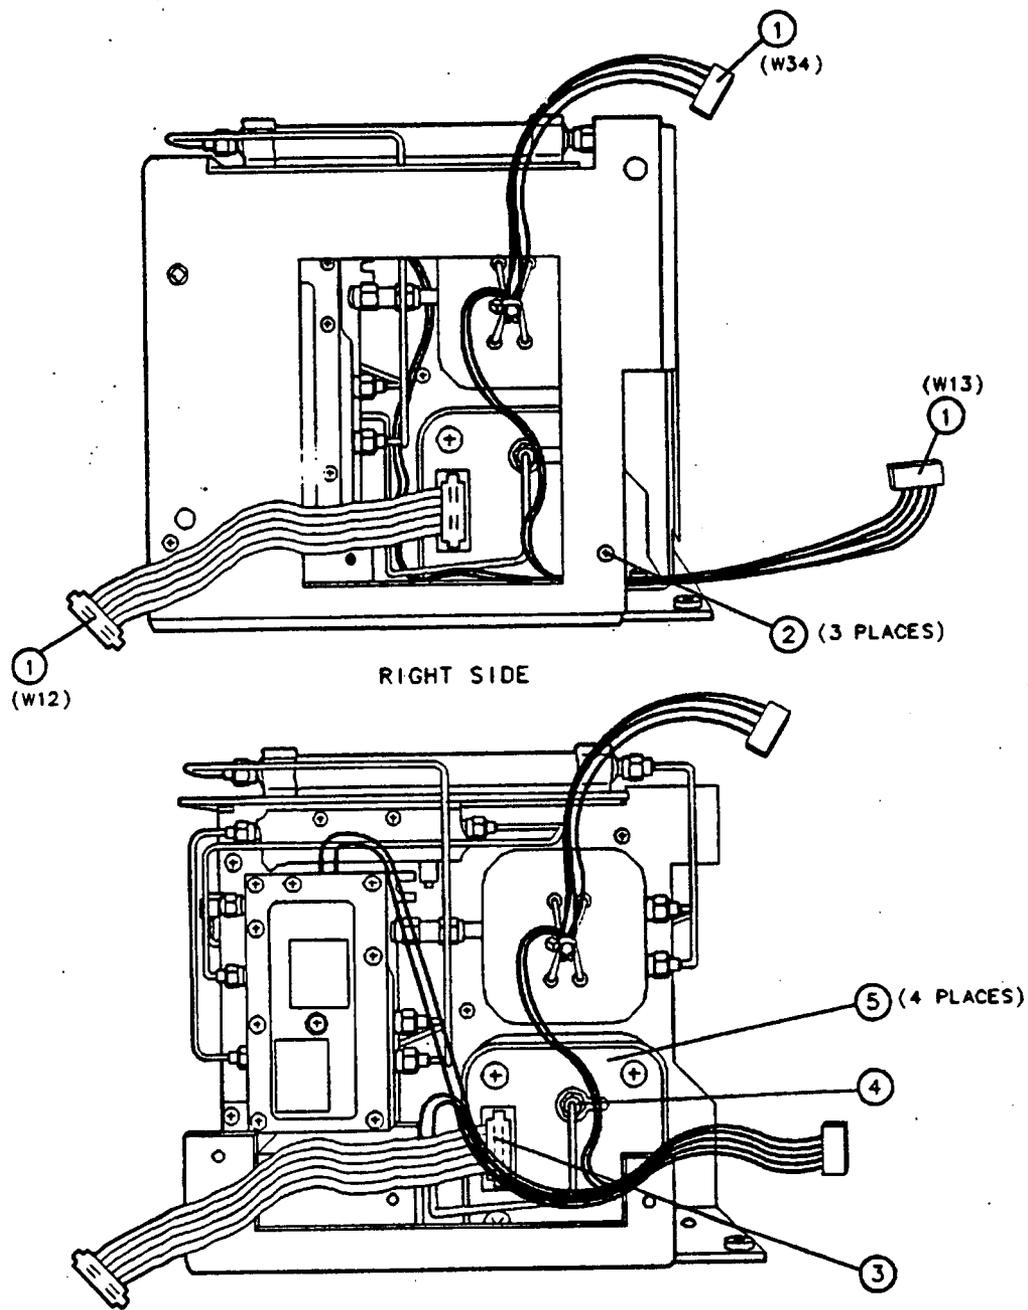

Figure 3-17. A3A7 YTO Replacement
3. Note the cable dress of W12, W34, and W13 (1) that pass through the opening in the "D" bracket. See Figure 3-17. (This information is used later, during the YTO replacement procedure.)
6. Remove the three screws (2) that secure the "D" bracket to the "A" bracket, and remove the "D" bracket.
7. Remove the W12 ribbon cable (3) from the YTO.
8. Disconnect the W31 semirigid cable (4) from the YTO.
10. Hold the YTO assembly in position on the "A" bracket and remove the four screws that secure the YTO assembly to the "A" bracket (5).
6. Replace the four screws that secure the YTO assembly to the "A" bracket (5).
8. Connect the W31 semirigid cable (4) to the YTO and tighten to 10 inch-pounds using a 5/16 inch torque wrench. See Figure 3-17.
9. Replace the W12 ribbon cable (3) on the YTO.
10. Pass W12, W34, and W13 (1) through the opening in the "D" bracket. See Figure 3-17.
11. Position the "D" bracket on the front-end assembly and replace the three screws (2) that hold it to the "A" bracket.
13. Reposition W12, W34, and W13 (1) as noted during the YTO removal procedure.